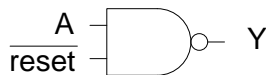

Fig. 10
10. Design the asymmetric gate in Fig. 10. (5%)